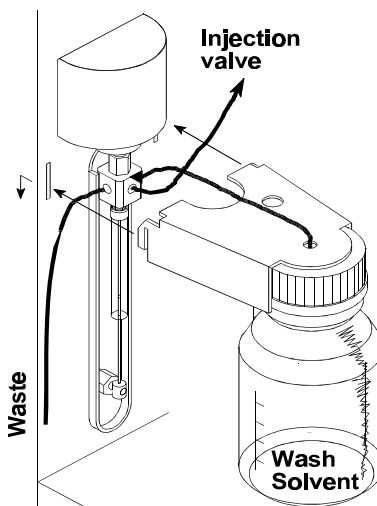

Figure 2.1 Wash solvent bottle
3. Place the holder in the Endurance as indicated in figure 2.1.